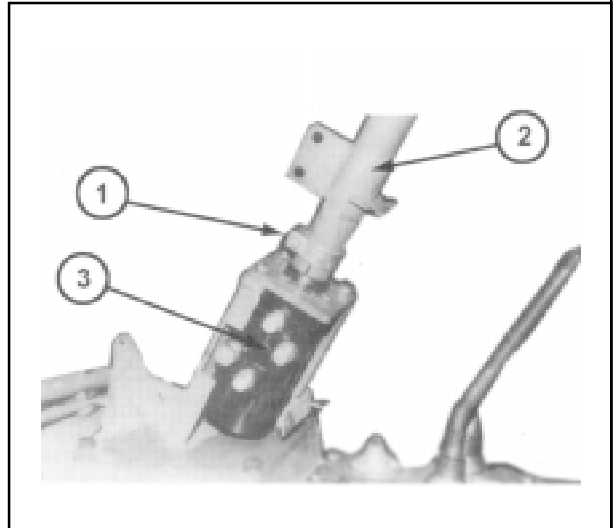

Figure 5
8. Slacken clamp bolt securing the steering column to the motor and carefully withdraw the motor assembly from the left-hand side of the tractor, Figure 5.